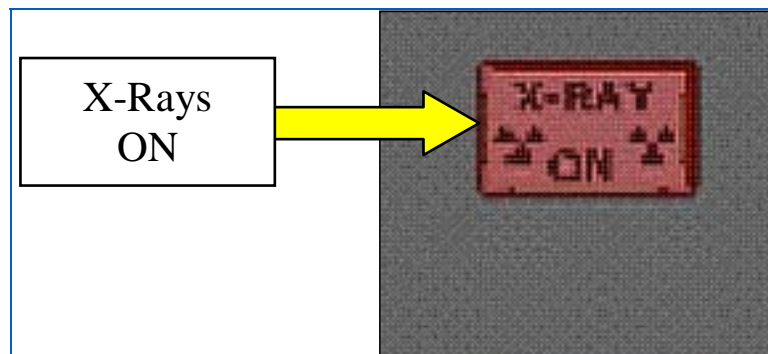
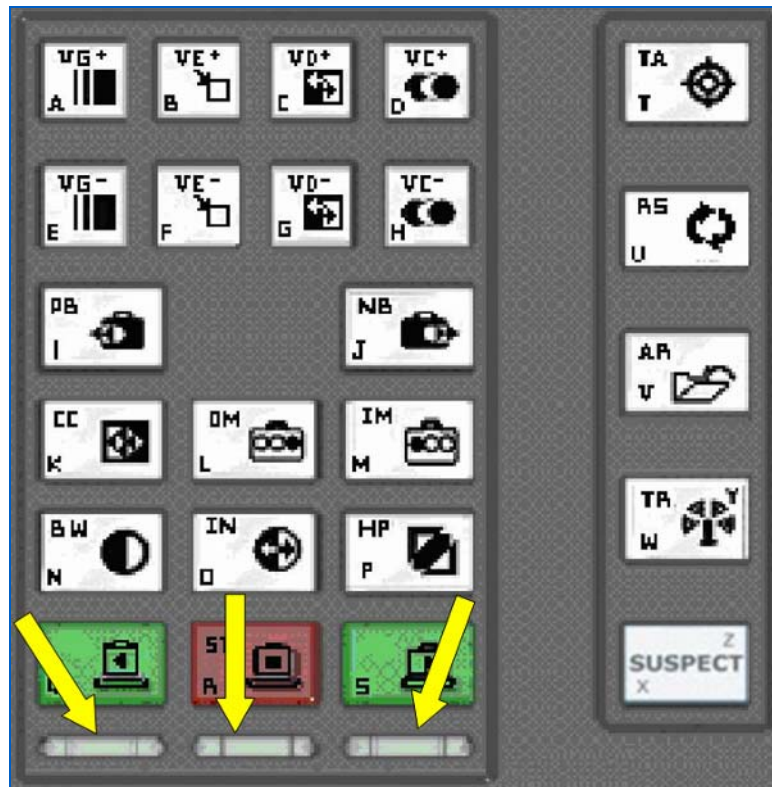

Figure 119: X-rays On Light
Figure 120: Conveyor Indicator Lights
The Operator Control Panel features five indicator lights. Figure 119 shows two of those lights: X-rays On and System On. Figure 120 shows the indicator lights at the base of the Image Processing Keypad (NOTE the SE button. These lights are for the Reverse (RE), Stop (ST) and Forward (FW) conveyor buttons and indicate when the respective buttons have been pushed.